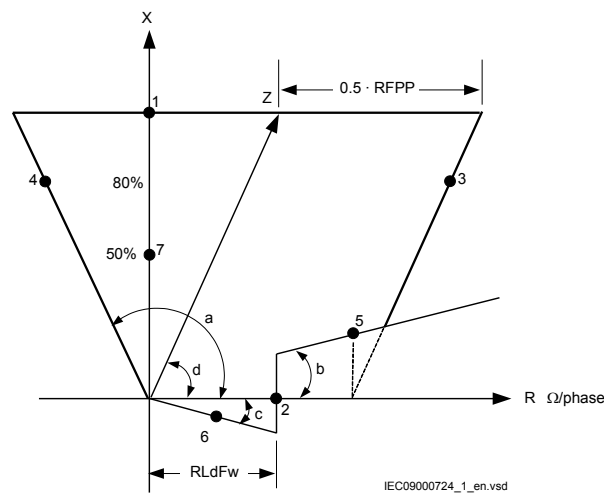

Figure 9: Distance protection characteristic with test points for phase-to-phase measurements
Table 2 is used in conjunction with figure 9.
2. Apply the fault condition and slowly decrease the measured impedance to find the operating value of the phase-to-phase fault L1-L2 for zone 1 according to test point 1 in figure 9 and table 2. Compare the result of the measurement with the set value.
2. Apply the fault condition to find the operating time for the phase-to-phase fault according to test point 7 in figure 9 and table 2 for zone 1. Compare the result of the measurement with the setting t_{IPP} .